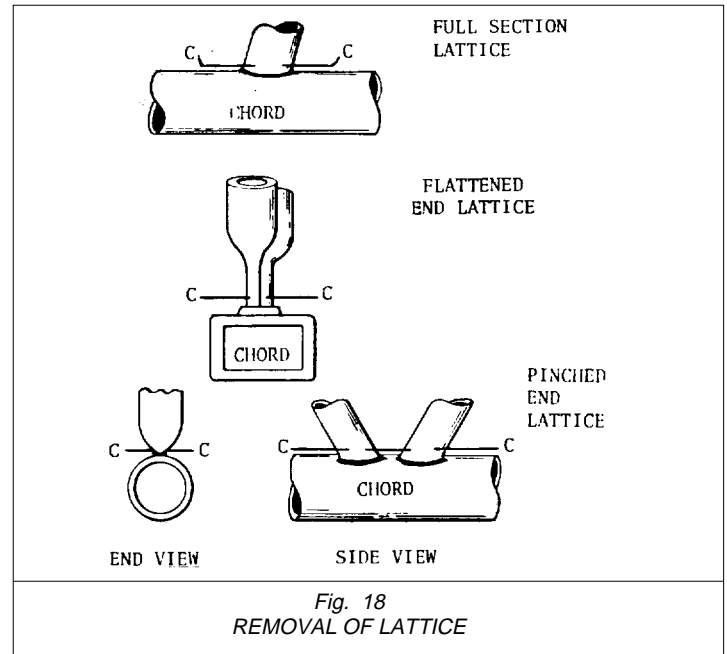

Fig. 18
(1) Remove the lattice or diagonal above the chord along section C-C in Figure 18.